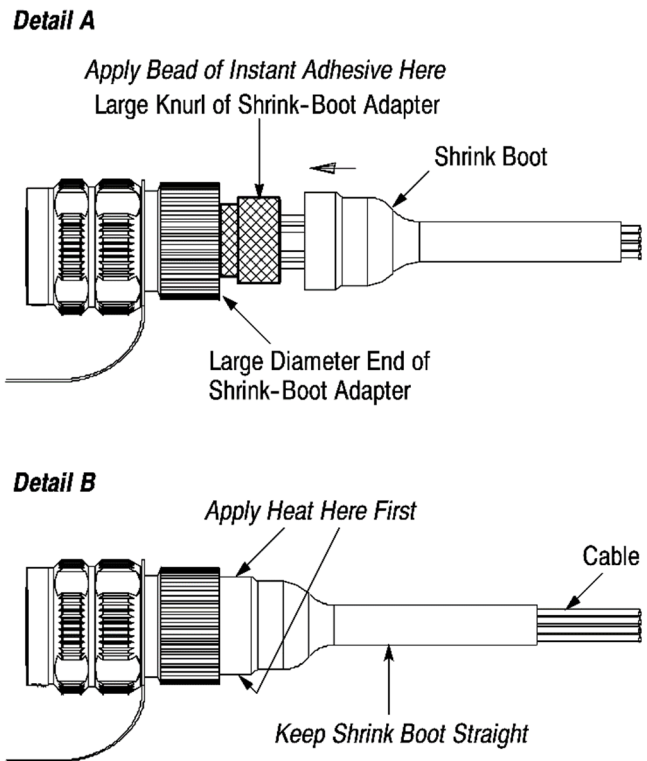

Figure 15
11. Apply a bead of the Loctite 411 instant adhesive around the large knurl of the shrink-boot adapter. See Figure 15, Detail A.
12. Slide the shrink boot over the shrink-boot adapter until it is against the large diameter end of the shrink-boot adapter. See Figure 15, Detail A.
13. Using the hot air gun, apply heat, first evenly around the circumference of the large diameter end of the shrink boot, then continue along the length of the shrink boot until the shrink boot conforms to the cable. Keep the shrink boot straight until it is completely cooled. Refer to Figure 15, Detail B.